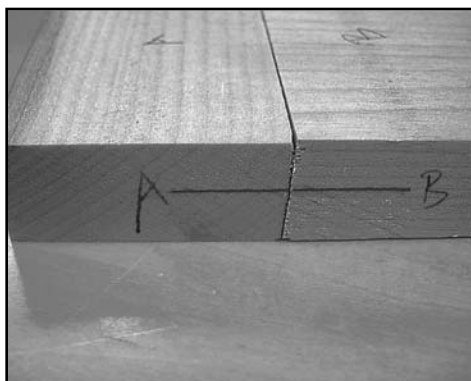

Fig. 2
2. Mark center location of joint on edge of material. (Fig. 2)